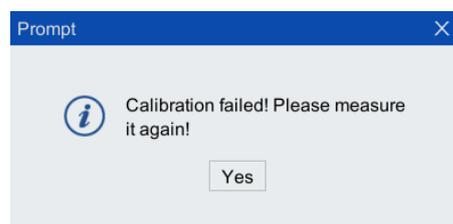
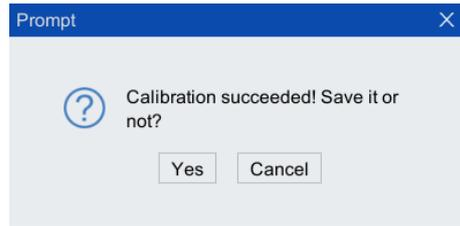
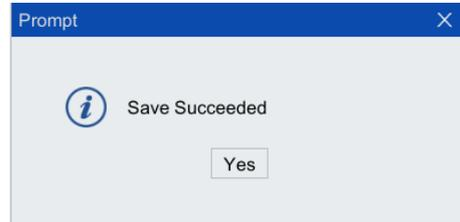

Figure 5-93 "Calibration failed, please re-measure!" prompt dialog box
Figure 5-94 "Calibration is successful, save it?" prompt dialog box
Figure 5-95 "Save successfully" prompt dialog box
Step4. After all the calibrations are successful, click the <Calculate> button at the bottom of Figure 5-92 to calculate the error. If it exceeds the error range, the "Calibration failed, please re-measure!" box as shown in Figure 5-93 will pop up, then you need Re-calibrate until the error is within the allowable range; if the error is within the allowable range, the "Calibration is successful, save it?" prompt dialog box as shown in Figure 5-94 will pop up, click the <Yes> button, and Figure 5-95 will pop up As shown in the "Save Successful" prompt box, the calibration is completed.